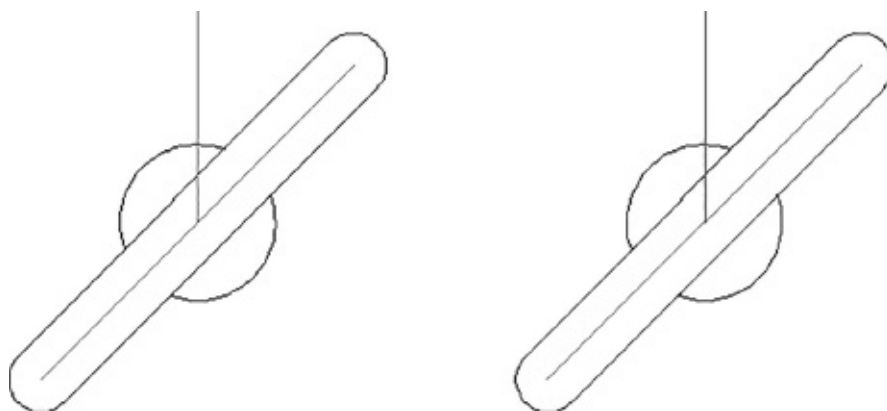

FIGURE 17.32 The two parts rotate in unison.
4. Type **45** ↵. Both sides of the block rotate about their own centers to a 45-degree angle (see Figure 17.32).